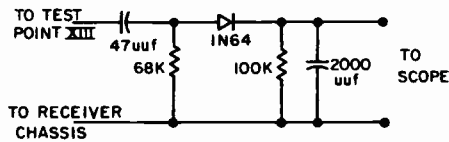

Fig. 7. 4.5 MC detector network
3. Connect the detector network, Figure 7, to Test Point XIII. Connect a scope to the network.